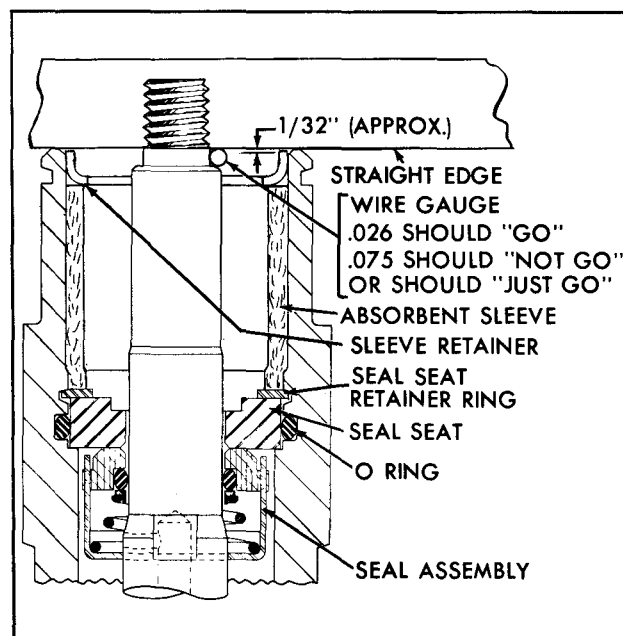

Fig. 1-73 Gaging Seal Retainer
12. The $1/32''$ dimension is critical and may be checked by using wire gages as shown in Fig. 1-73.